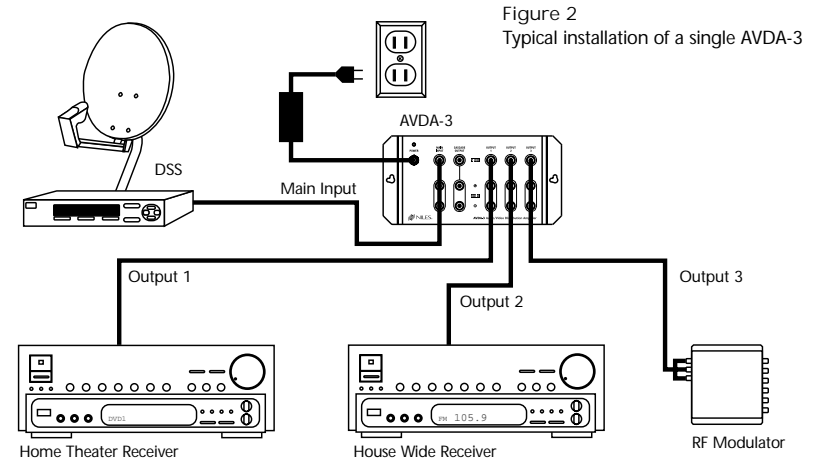

Figure 2
1. Connect the distributed source components A/V output signal cables to the RCA input connectors (L audio, R audio, and video) (See Figure 2).
2. Connect the AVDA-3's output RCA connectors to the source signals destination (i.e., the A/V input of an AM/FM receiver, RF modulator or television etc.) (See Figure 2).